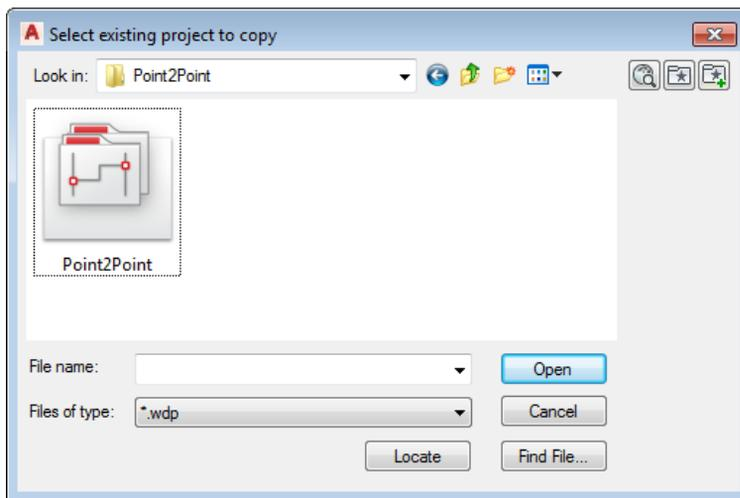

Figure 2-68 Selecting the Point2Point.wdp file
2. Choose **Browse** from this dialog box; the **Select existing project to copy** dialog box is displayed. In this dialog box, double-click on the **Point2Point** folder and then select **Point2Point.wdp** file displayed, refer to Figure 2-68. Next, choose the **Open** button; path of the *Point2Point.wdp* file is displayed in the edit box of the **Copy Project: Step 1 - Select Existing Project to Copy** dialog box.